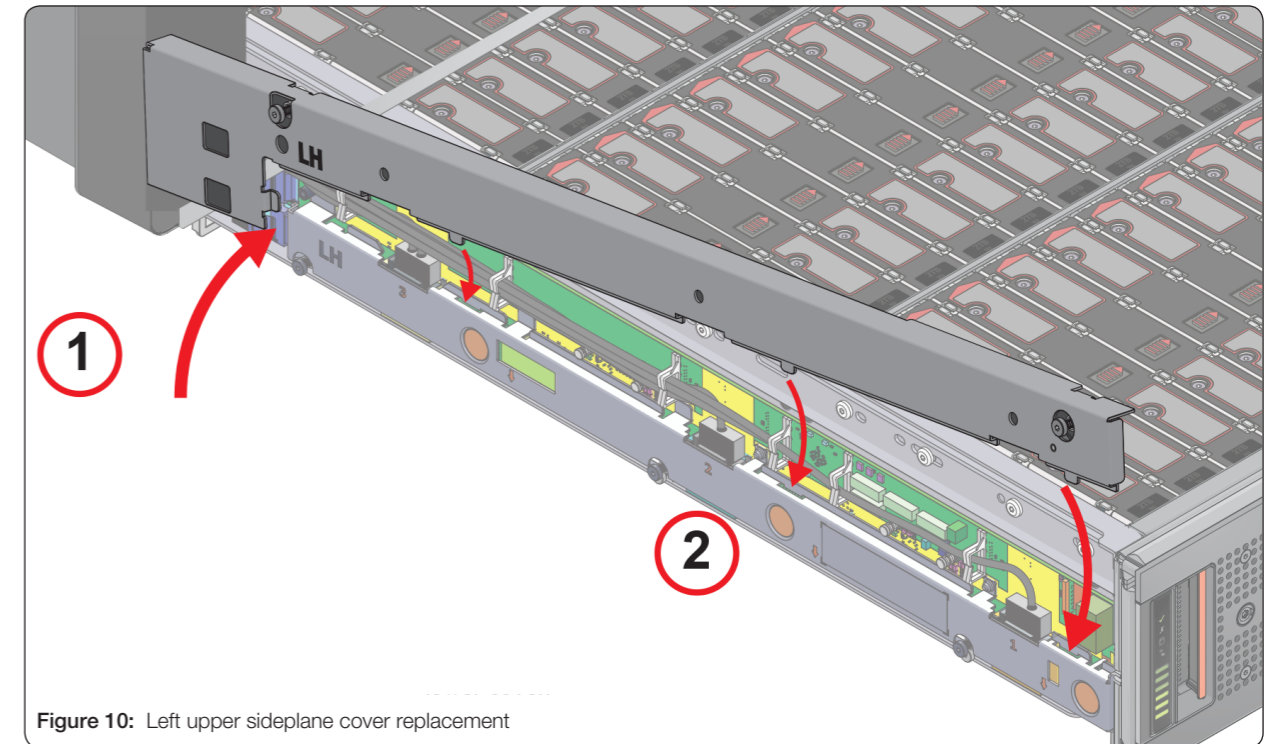

Figure 10: Left upper sideplane cover replacement
5. Position the rear tab of the upper sideplane cover into the slot in the lower sideplane cover (Figure 10).
6. Rotate the upper sideplane cover down and fit each of the 3 tabs into the corresponding slots in the lower sideplane cover (Figure 10).